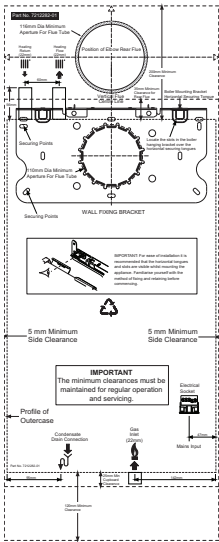
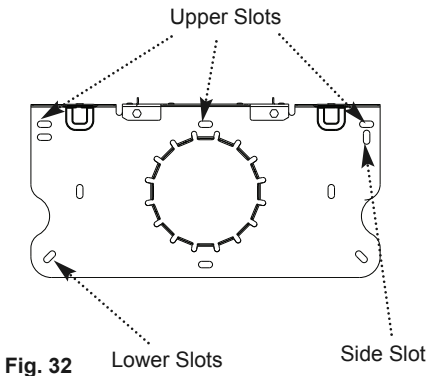

Fig. 33
Fig. 32
1. Position the fixing template on the wall ensuring it is level. Mark the position of the most suitable upper fixing slots for the wall bracket (Fig. 33). The two lower slots **MUST** be used, and it is recommended that the side slot is used where possible (Fig. 32).
2. Mark the position of the centre of the flue hole. If required mark the centrelines of the gas supply, condensate drain and heating flow & return pipes. Remove the template (Fig. 33).